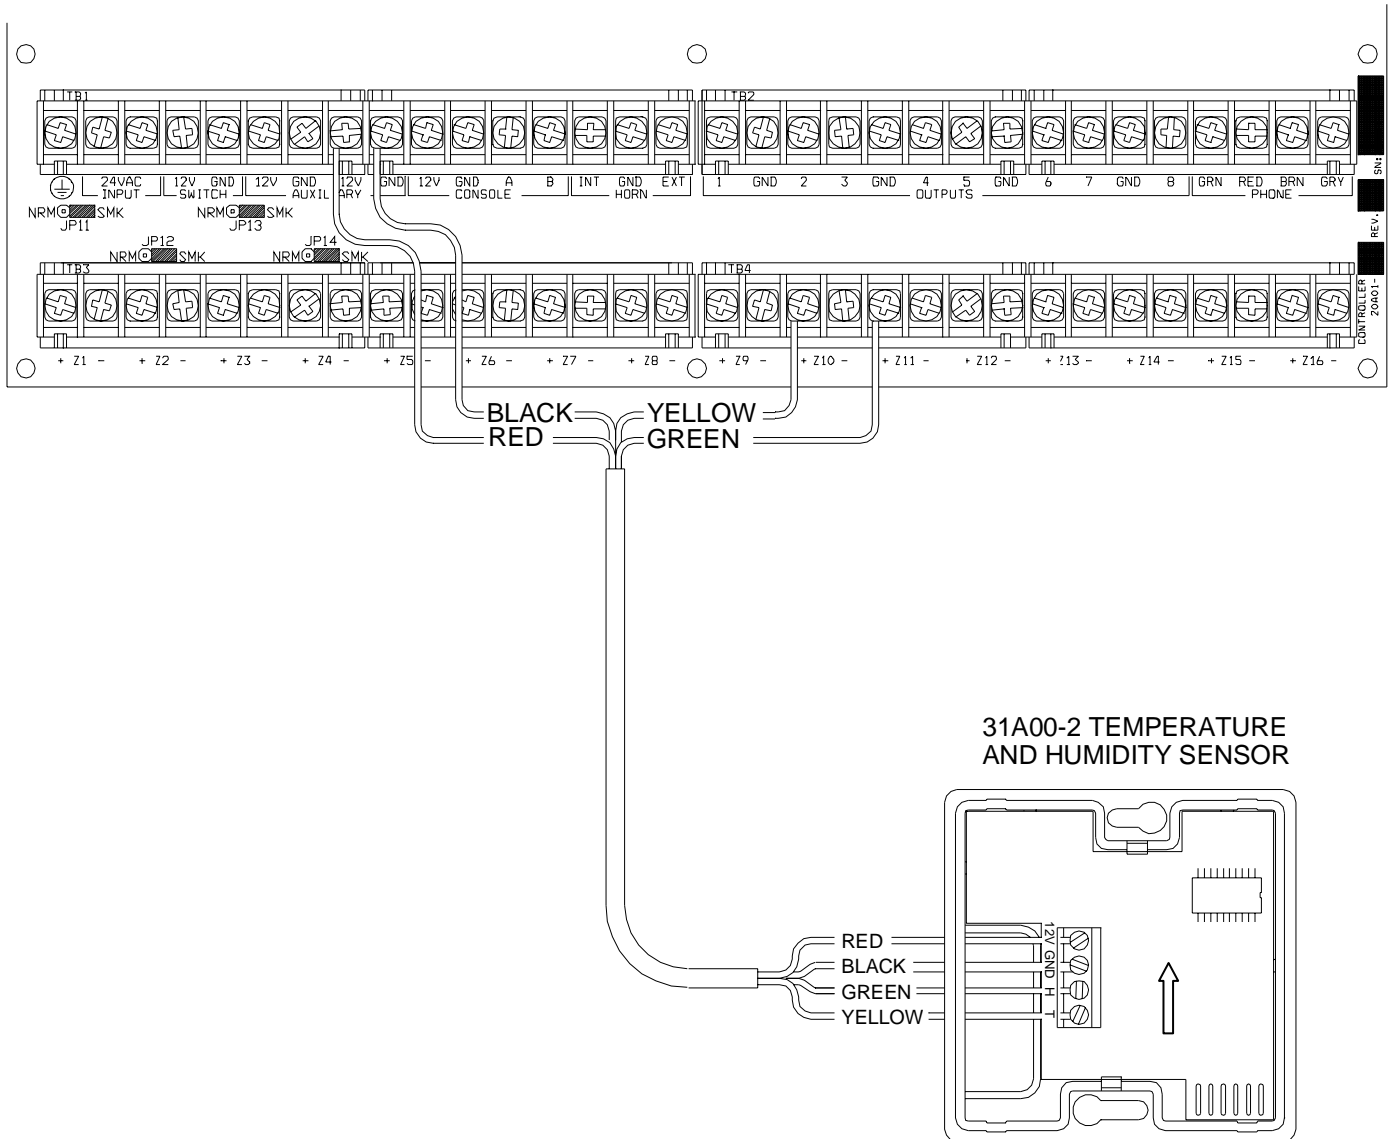

FIGURE 1 – MODEL 31A00-2 CONNECTIONS
2. Mount the Model 31A00-2 using the supplied wall anchors and screws. For optimal temperature and humidity readings, mount it vertically so that the white arrow (silk-screened onto the board) points upward as shown in FIGURE 1. The plastic enclosure must be mounted so that the airflow slots are at the top and bottom. Connect to controller as shown in FIGURE 1.